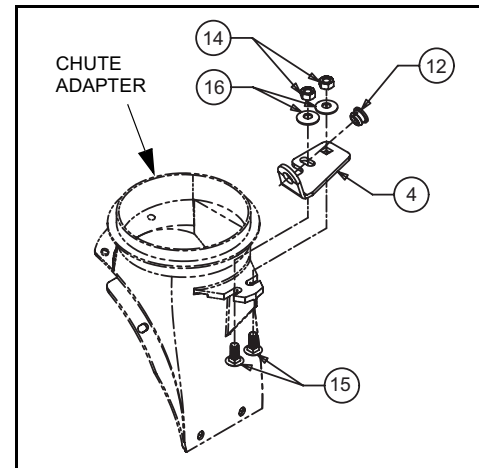

FIGURE 2
1. Clean the mating surfaces of the Chute Adapter and Lower Chute. Refer to Figures 2 & 3.
3. One at a time, place the three (3) Lower Chute Flange Keepers, removed in Step 6 above, beneath the lip of the Lower Chute. Place the Keeper's flat side facing down. The stepped side of the Keeper catches under the lip on the Chute Adapter. Align the two holes in the Keeper with a pair of holes in the Lower Chute.
4. Attach each Keeper with two (2) Hex Hd Screws, Item 5, and Hex Flange Lock Nuts, Item 13. The Hex Hd Screws are placed from the underside up through the Keepers then through the Lower Chute. CAUTION: DO NOT OVER TIGHTEN SO THAT PLASTIC LOWER CHUTE OR LOWER CHUTE FLANGE KEEPERS ARE DEFORMED.
5. Refer to Figure 2. Attach Chute Crank Bracket, Item 4, to the slotted flange on the Chute Adapter with two (2) Carriage Bolts, Item 15, Bell Washers, Item 16, and Hex Nuts, Item 14. Tighten finger tight only.
6. Insert a Bushing, Item 12, into the hole in the Chute Crank Bracket (Upper), Item 4. See Figure 2.
1. Position the Chute Crank Bracket, Item 4, so that the spiral on the Lower Chute Crank, Item 1, fully engages the slots on the Lower Chute. Tighten the two (2) Hex Nuts, Item 14. See Figure 2.